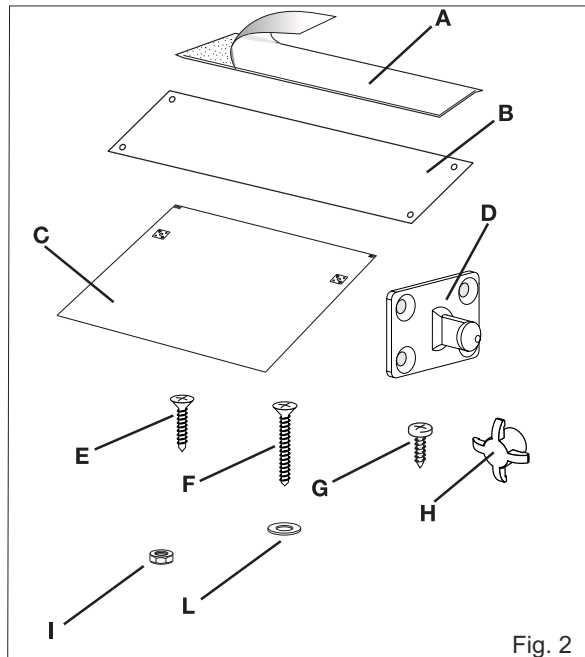

Fig. 2
- 1 adhesive steam guard or 1 steel steam guard (ref. A or B fig. 2)*;
- 1 template for door panel (ref. C fig. 2);
- 2 hooks for door panel (ref. D fig. 2);
- 8 screws for securing the door panel hooks (ref. E fig. 2);
- 2 screws for securing the door (ref. F fig. 2);
- 2 screws for fixing the dishwasher to the adjacent walls (ref. G fig.2);
- 2 screw caps (ref. H fig.2).
- 2 adjustment feet (only for some models) (ref. I fig.2);
- 2 nuts (only for some models) (ref. L fig. 2);